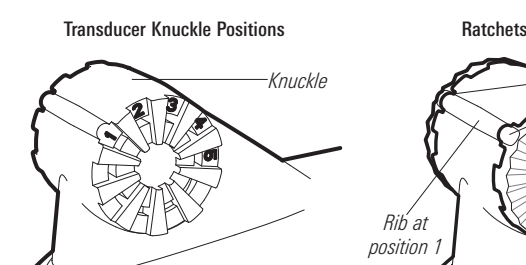
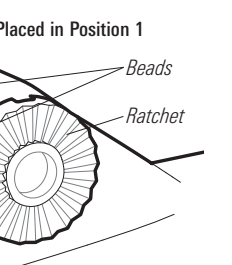

Figure 23a
Figure 23b
2. Place the two ratchets, one on either side of the transducer knuckle, so that the beads on each ratchet line up with the desired position number on the knuckle (Figure 23a). If you are setting the ratchets at position 1, the beads on each ratchet will line up with the rib on the transducer knuckle to form one continuous line on the assembly (Figure 23b).